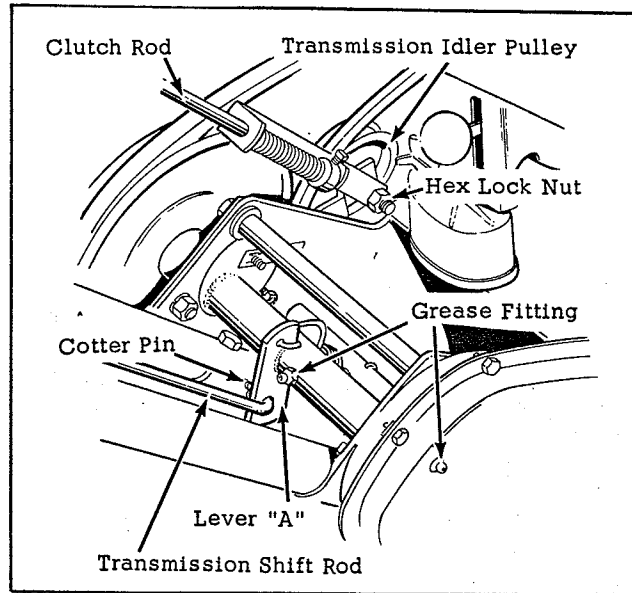

Fig. 3
3. Connect the lower end of the shift rod to lever "A" shown in Figure 3. Secure with a cotter pin.
4. Connect the lower end of the clutch rod to the idler pulley using hex lock nut as shown in Figure 3. The lock nut should be tight enough to remove side play but loose enough to allow the bracket to pivot freely.